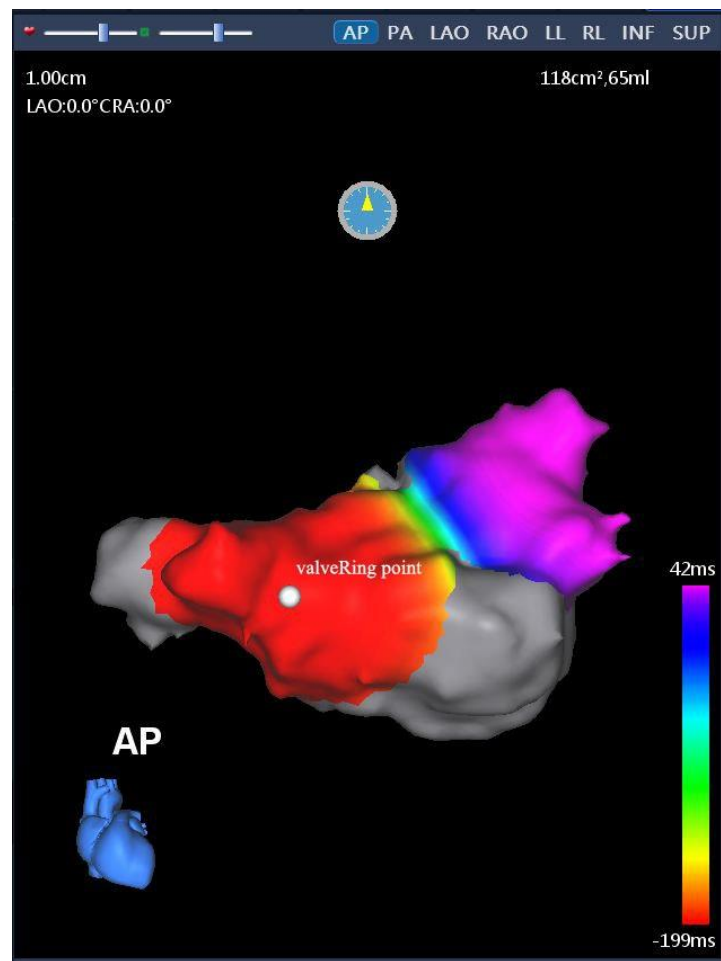

Figure 7-6 Show Map Point Annotations
- 2) Select this point to open the right-click menu and select "Show Comment," and the map point annotation is displayed next to the corresponding map point in the map window (Figure 7-6);
When starting a new Columbus™ mapping procedure, the monitoring window is located below the mapping window (Figure 7-6). Throughout the procedure, the monitoring window continuously displays the ECG channels. By default, only the reference and map channels are displayed in the Monitoring window. However, you can show or hide any acquired channel in this window. You can also change the time scale of the signal, or the gain of a particular channel.